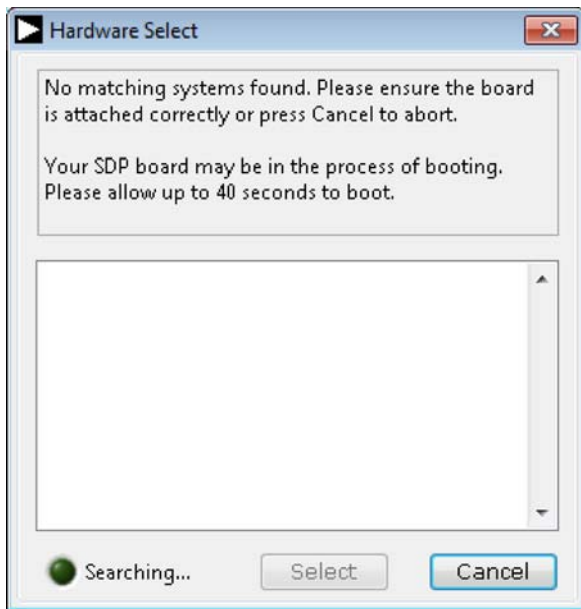

Figure 12. *SDP-S Board Not Connected to the USB Port*
2. If the **SDP-S** board is not connected to the USB port when the software is launched, a connectivity error displays (see Figure 12). Connect the **SDP-S** board to the USB port of the PC, wait a few seconds until the board appears in the lower section of the window, and click **Select** (see Figure 12).